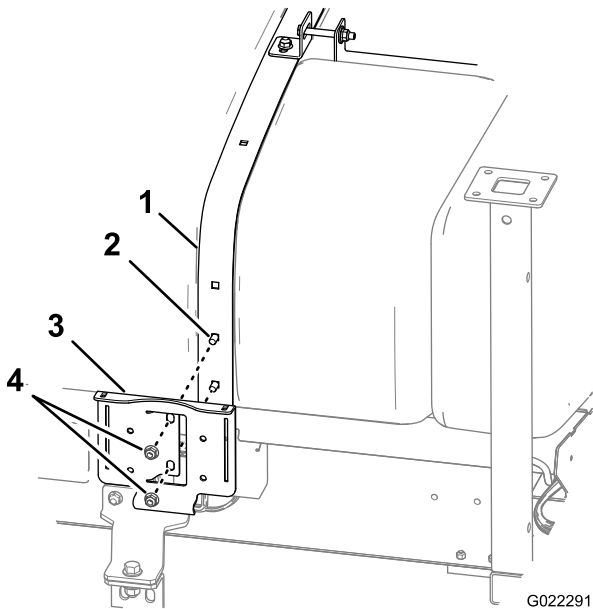

Figure 8
1. Attach the mounting bracket for the rinse pump to the 2 carriage bolts on the side of the front tank strap using the 3/8 inch flange nuts (Figure 8).